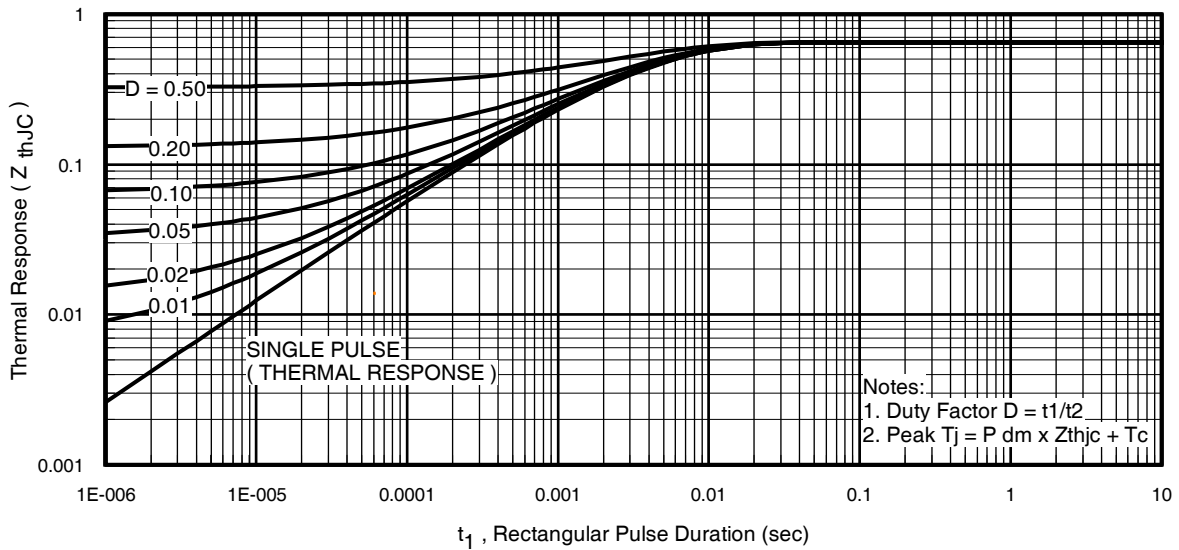

Fig 11. Maximum Effective Transient Thermal Impedance, Junction-to-Case
- ① Repetitive rating; pulse width limited by max. junction temperature. (See fig. 11).
- ② Limited by T_{Jmax} ; starting $T_J = 25^\circ\text{C}$, $L = 0.10mH$
$Z_{thJC}(D, t_{av})$ = Transient thermal resistance, see figure 11)